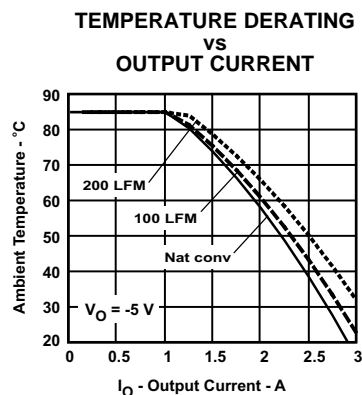
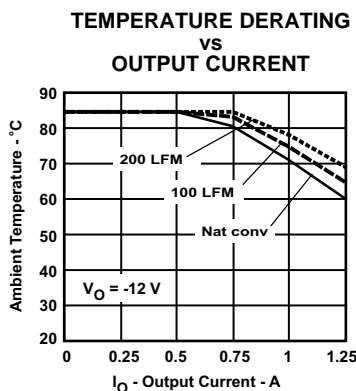

Figure 4.
Figure 5.
- (2) The temperature derating curves represent the conditions at which internal components are at or below the manufacturer's maximum operating temperatures. Derating limits apply to modules soldered directly to a 100 mm x 100 mm, double-sided PCB with 2 oz. copper. Applies to Figure 4, Figure 5, and Figure 6.